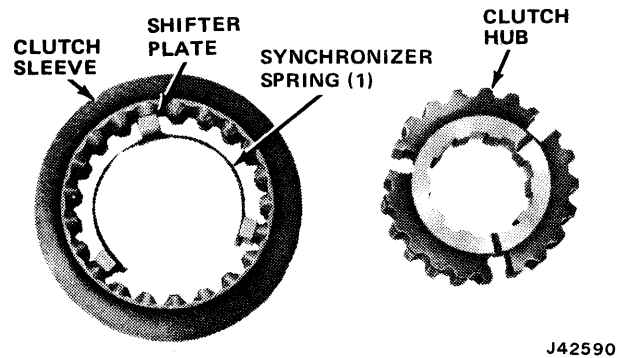

Fig. 6-26 First Gear Synchronizer Assembly
(7) Remove synchronizer spring from first gear synchronizer assembly (fig. 6-26). Mark synchronizer sleeve and hub for assembly reference and remove sleeve and shifting plates from hub.
NOTE: *The first gear synchronizer assembly uses only one synchronizer spring (fig. 6-26).*
(11) Install first gear and blocking ring on main shaft.
(12) Assemble first gear synchronizer assembly (fig. 6-26). Align sleeve and hub using alignment marks made at disassembly. Install sleeve shifting plates and insert spring and install assembly on main shaft.